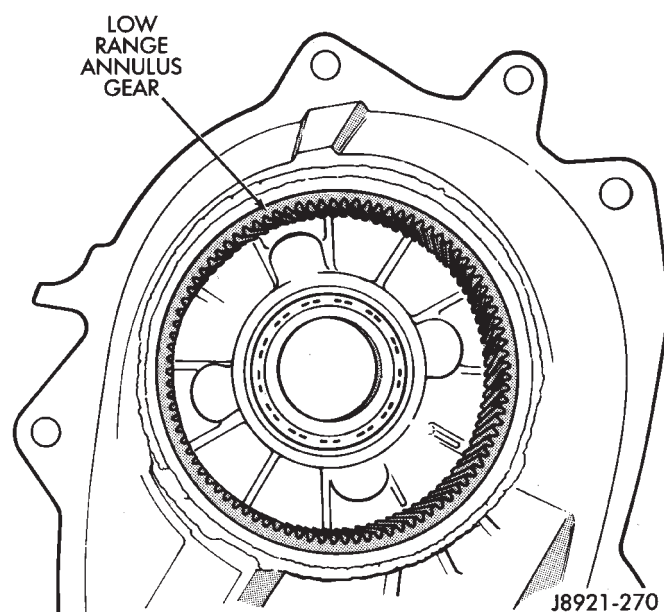

Fig. 33 Inspecting Low Range Annulus Gear
- (47) Inspect low range annulus gear (Fig. 33). **The gear is not a serviceable component. If damaged, replace gear and front case as an assembly.**